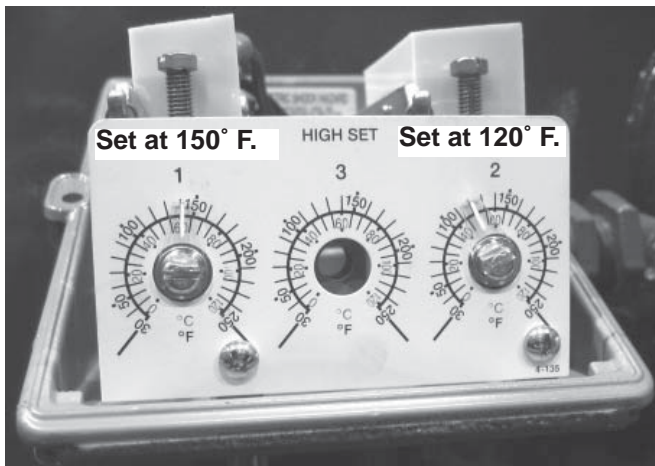

Figure 14 - Temperature Switch
**Dual Oil Temperature Switches** Installed in the WE-5 system to prevent damage caused by high temperatures. Temperature switch Dial #2 set at 120°F (see Figure 14) turns the cooler fan motor on and off (if equipped). Dial #1 set at 150° F stops the pump motor at the high setting. See wiring diagram 903057 and manufacturer’s manual in your document pack for settings. Dial #3 is not used.